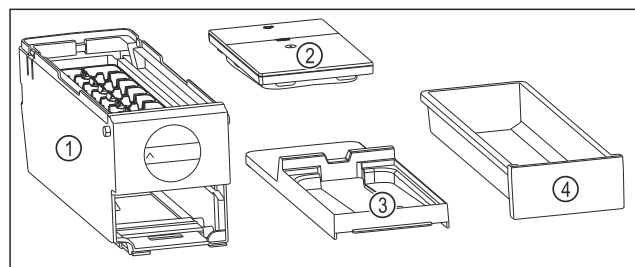

Fig. 150 Components of the EasyTwist-Ice
- ▶ EasyTwist-Ice is dismantled into four parts. (see Fig. 150)
- ▶ Only dismantle the EasyTwist-Ice into the components shown. (see Fig. 150)
- ▶ Clean the EasyTwist-Ice body Fig. 150 (1) as a whole.